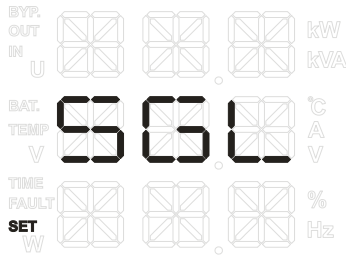

Figure4-4 SGL mode
**SGL** setting page: when the UPS has been set to parallel mode and it needs to set to single use mode, enter this setting page, the **SGL** flickers. If you confirm to select the setting, press **①** (ON) button more than 1s, exit the setting page, the setting succeeds. If you do not confirm to select the setting, 20s later, it will exit the setting page automatically. Corresponding LCD display is as shown in Figure4-4.